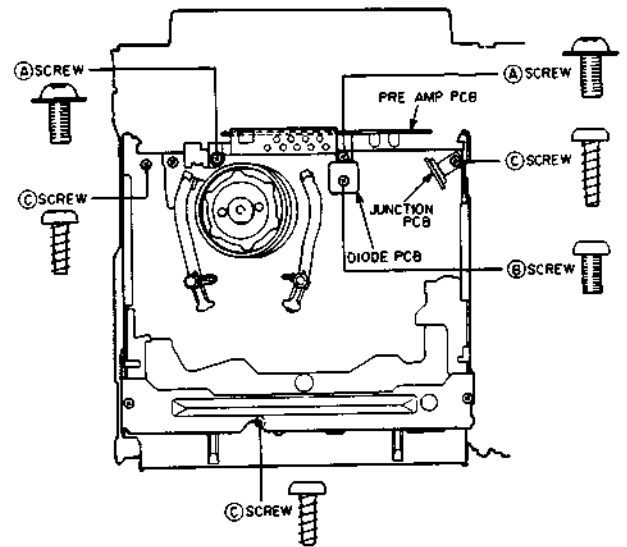

Fig. 4-25.
- 1) Remove the two (A) screws then pull up the PRE AMP PCB as shown in Fig. 4-25
- 1) Disconnect the connectors P302, P401, P408, P409 on the MAIN PCB and P1, P2 on the A/C HEAD(2) PCB.
- 2) Remove the (B) screw on the DIODE PCB and remove the DIODE PCB. (Except VS-425EM and 485EK models)
- 3) Remove the three (C) screws from the MECHA. FRAME as shown in Fig. 4-25.